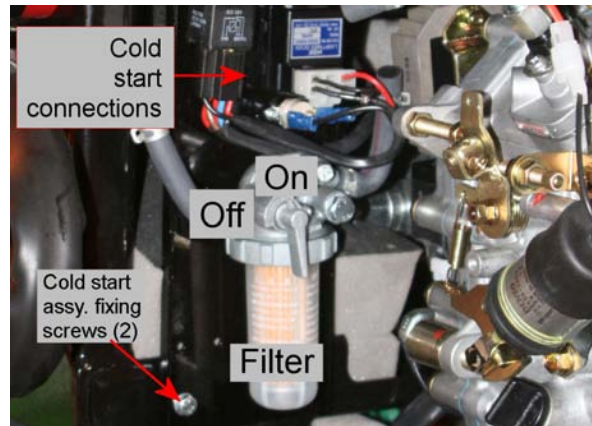

Fig 3-13 Extra fuel filter
- On the cold start bracket (Fig 3-13).
This filter (*Fig 3-13*) can be removed without draining the fuel tank.